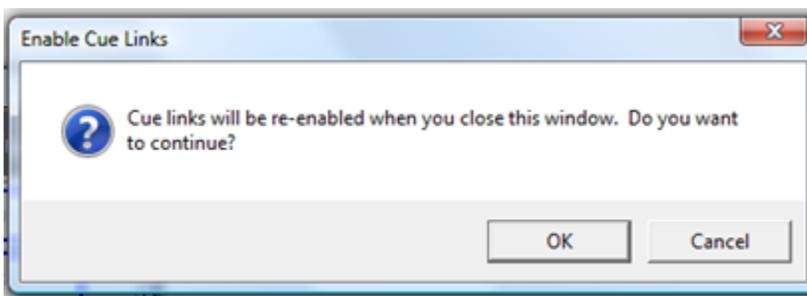

Figure 347
- Click **OK** in the **Enable Cue Links** dialog box to re-enable all cue links (Figure 347). *If the motors have NOT finished moving, click **Cancel**.*